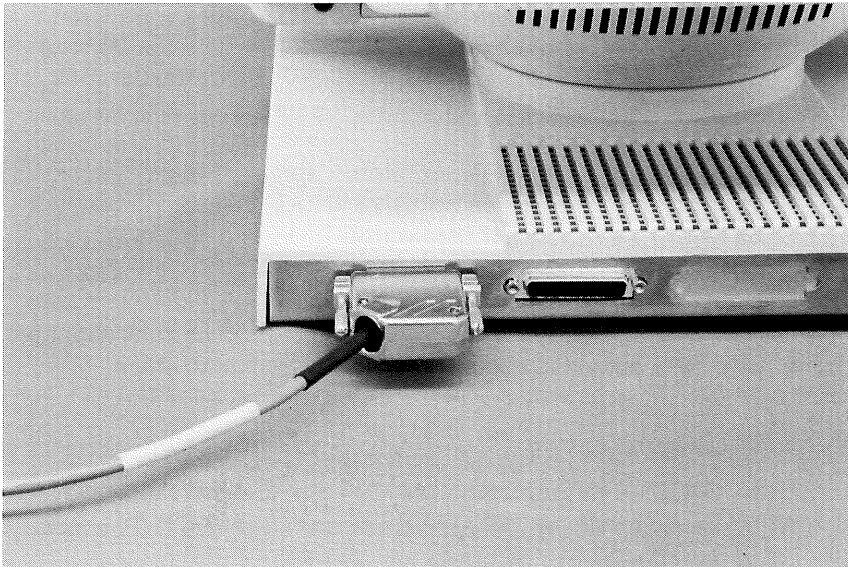

Figure 1.
6. Locate the cable for the graphic display. Attach one end of the cable to the connector on the back of the graphic display. Secure by tightening the two screws. See Figure 1.